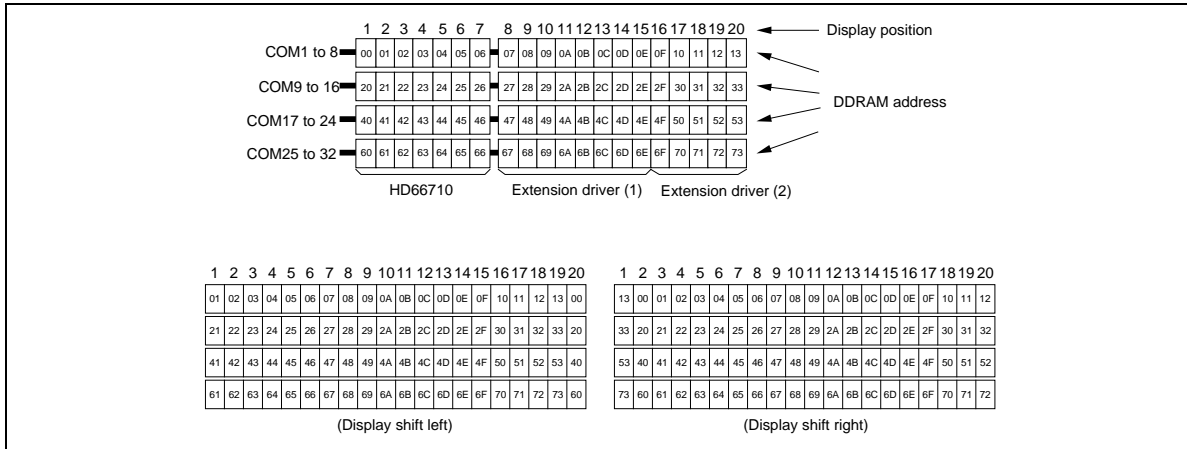

Figure 7 4-Line by 20-Character Display Example
- Case 2: The case is shown in figure where the EXT pin is fixed high, and the HD66710 and the 40-output extension driver are used to extend the number of display characters. When a display shift operation is performed, the DDRAM address shifts. See Figure 7.